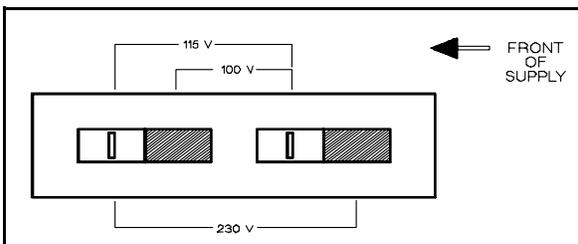

Figure A-3. Line Voltage Selector (set for 115 Vac)
- After making certain that the line cord is disconnected from a source of power, remove the top cover from the supply and set the two sections of the line voltage selector switch for the desired line voltage (see Figure A-3).